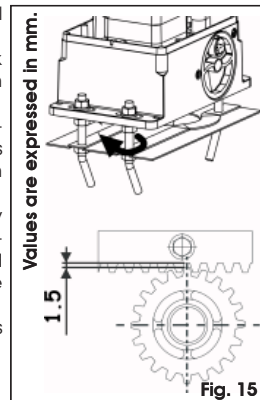

Fig. 15
- When the rack has been installed, to ensure it meshes correctly with the pinion, it is advisable to lower the gearmotor position by about 1.5 mm (Fig. 15).